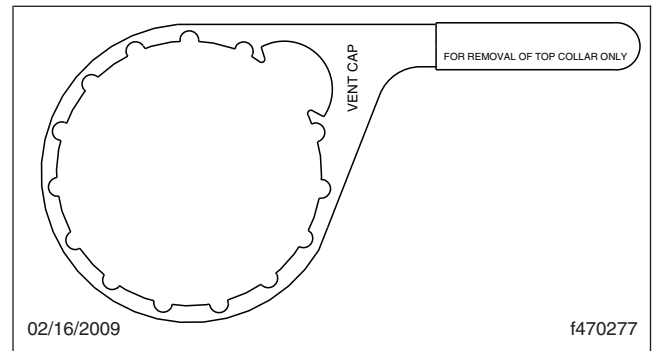

Fig. 24.3, DAVCO Collar Wrench
4. Using a DAVCO collar wrench, shown in **Fig. 24.3**, remove the clear cover and collar.